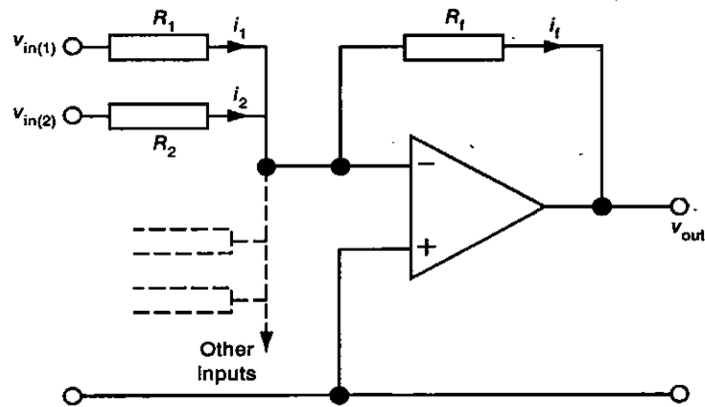

Figure 8.7 An inverting summing amplifier
4) Inverting summing amplifier, see Figure 8.7.